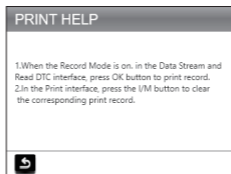

Figure 9.1.4
4. Select PRINT HELP (Figure 9.1.4) and press [OK] to view the instructions for printing test reports.